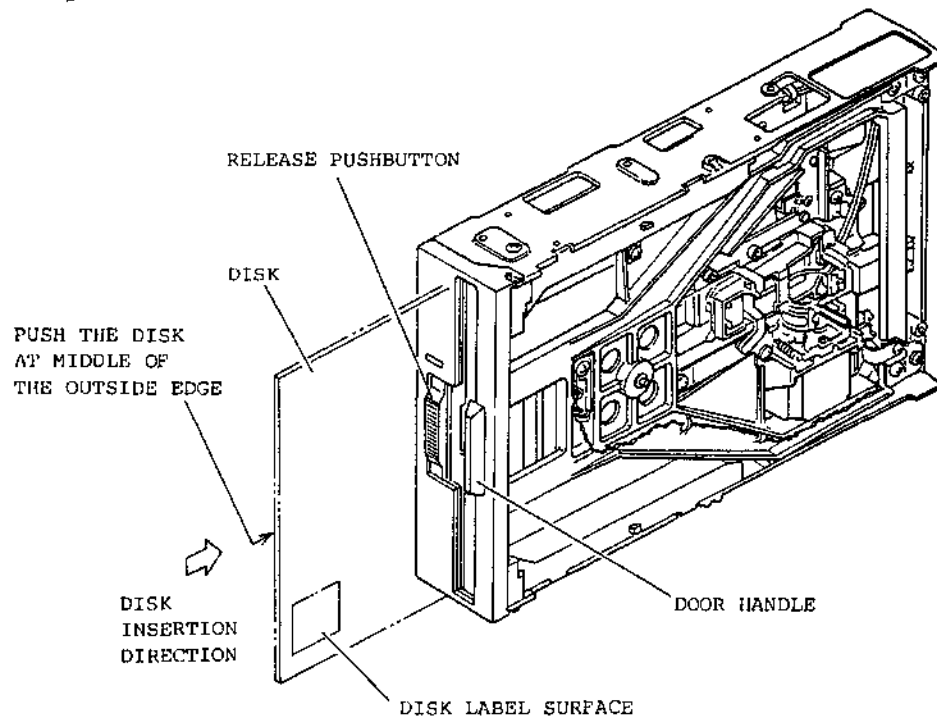

Fig. 3 Disk Insertion
- ① Open the insertion door by pressing the release pushbutton on the front panel.
- ② Insert the disk until spring pressure stops and a click is heard. (See Fig. 3 for the disk label surface, etc.).
- ③ Close the insertion door by moving the door handle, preferably holding the handle at its center. Mounting of the disk is now complete.
- ① When inserting a disk, do it slowly and hold the disk as shown in Fig. 3.